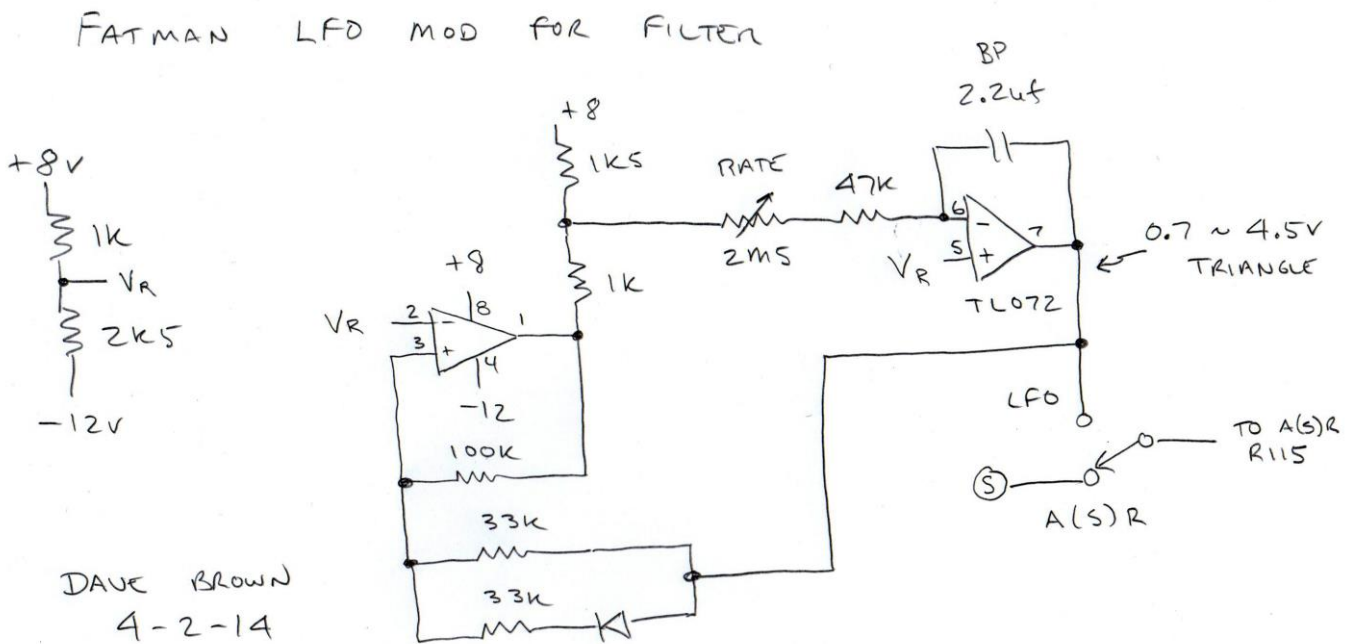

Figure 6
- LFO Modulator: Add triangle LFO for modulating filter. Add SPDT switch to select either A(S)R or LFO output (figure 6). 0.7 to 4.5V output voltage range selected for modulation.